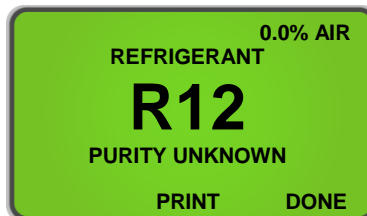

Figure 14
The *Ultima ID Pro*TM has the ability to Identify the following refrigerants: **R12, R1234yf, R408A, R409A, R417A, R421A, R421B, R422A, R422B, R422C, R427A** and **Hydrocarbons (HC)**. All Identified refrigerants will display with "Purity Unknown" as the analyzer cannot yield additional information regarding the composition **(Figure 14)**. Refer to **2.12 Channel Data Modelling** for additional information regarding Identified Refrigerants.